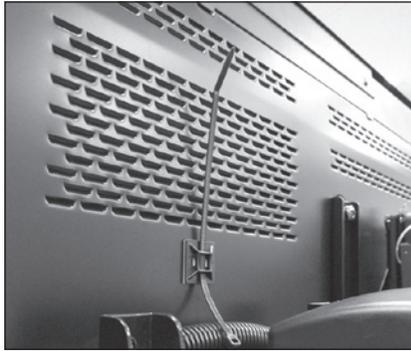

Figure 13: Feeding Zip Tie into Mounting Base (Left), Securing Zip Tie (Right)
5. Feed the zip ties through the openings in the mounting bases. See Figure 13.
6. Secure the zip ties around the wire loom and tighten. See Figure 13. Cut off the excess zip tie material with scissors.